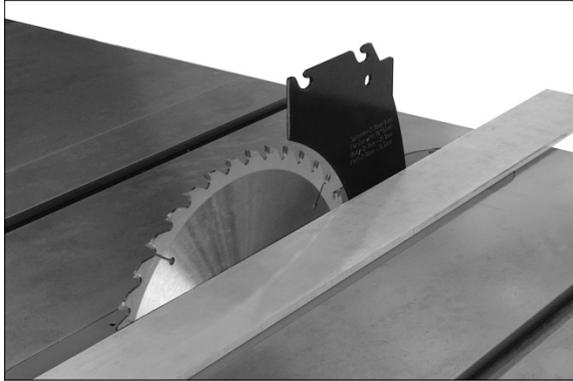

Figure 27
3. Place a straight edge against blade and riving knife; it should lie flush against both surfaces. See Figure 27.